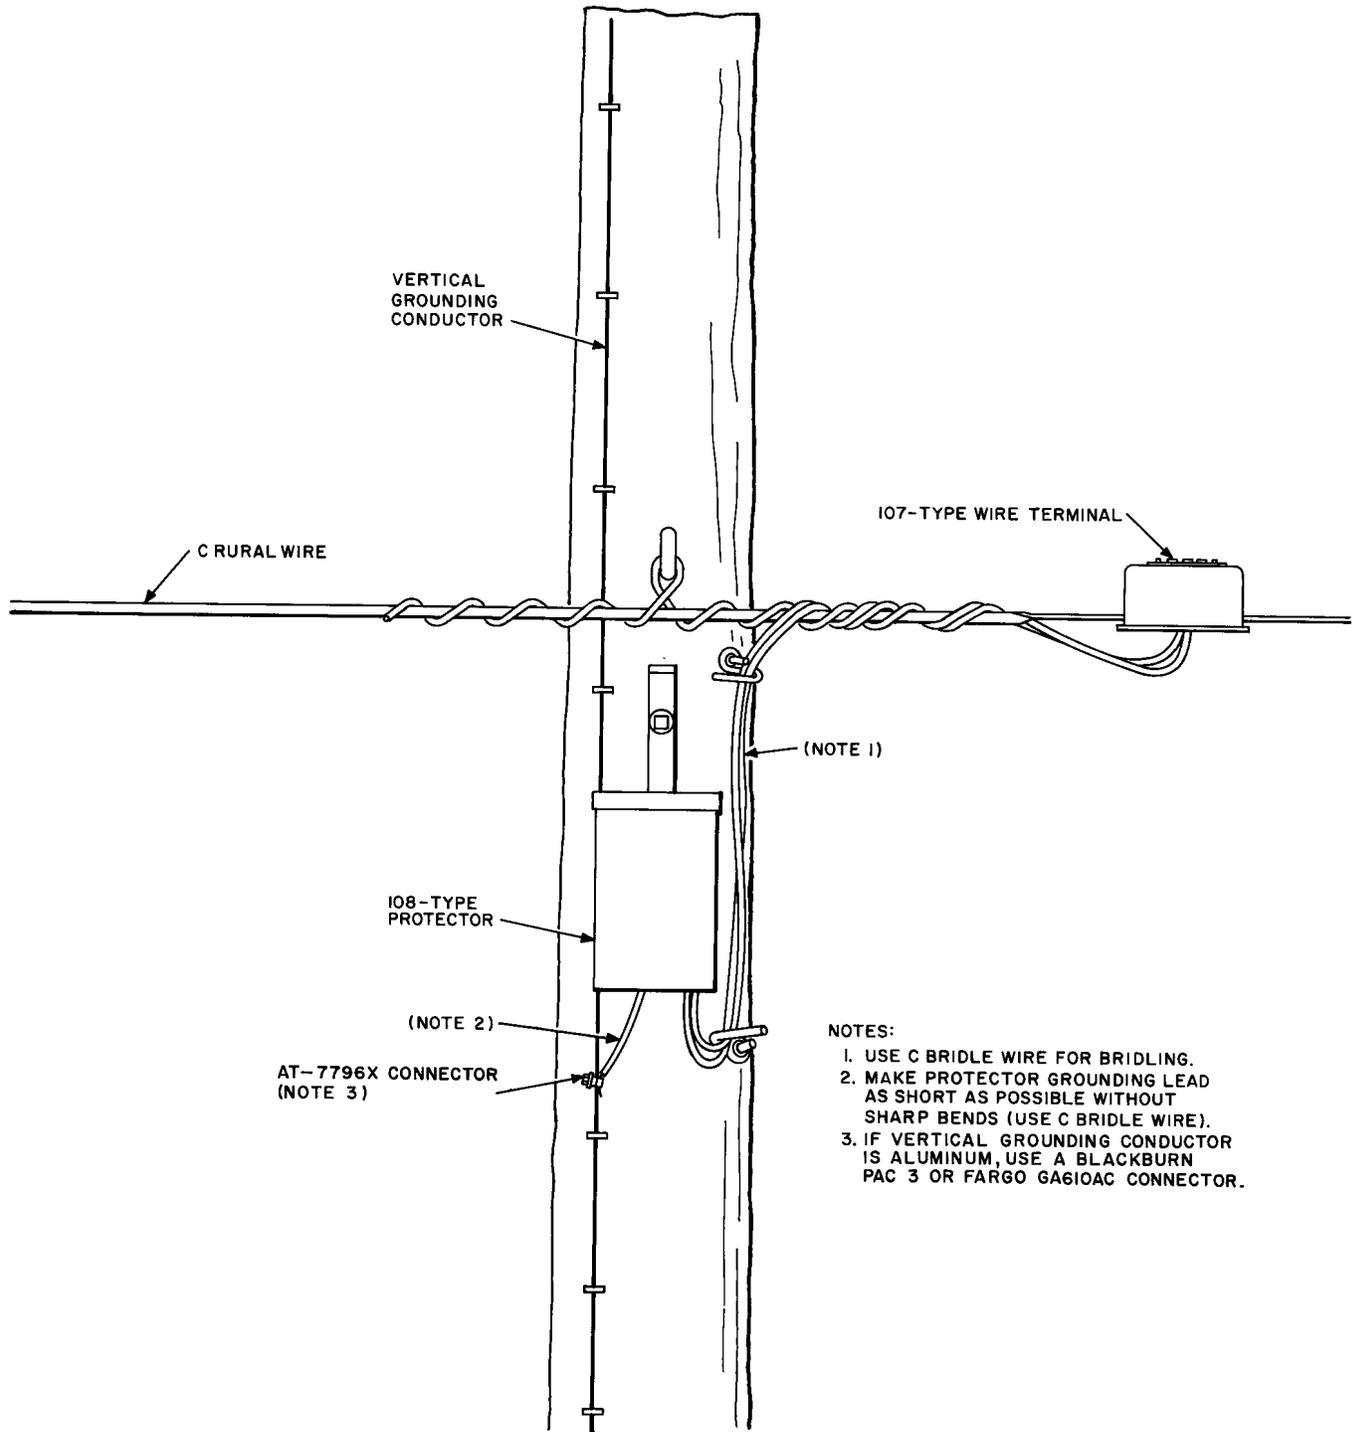

Fig. 4—108-Type Protector Mounted on C Rural Wire
4.03 The method of mounting a 108-type protector and wiring it to C Rural Wire is illustrated in Fig. 4. Section 624-730-200 describes the method of mounting and wiring the 107-type wire terminal. Use C Bridle Wire for making the connections to wire terminals and to grounding conductors.